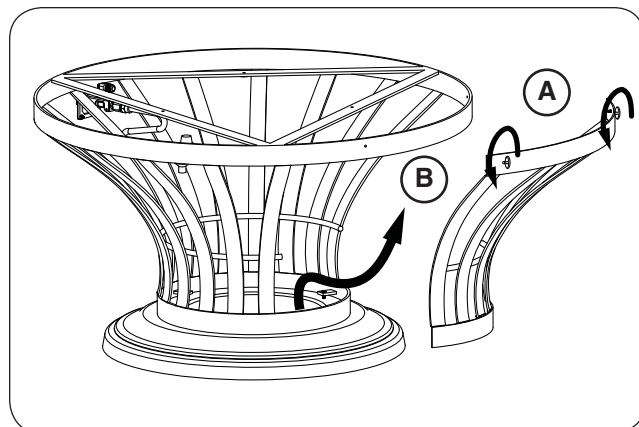

Fig. 21-2 Remove door
3. Remove the storage door by first turning the two thumb screws counter-clockwise, then carefully pulling the door up and outward (see Fig. 21-2). Store in a safe location.